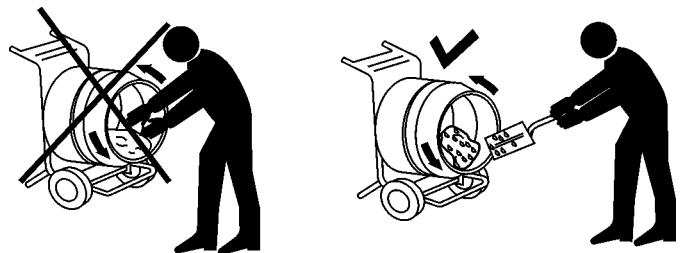

Figure 19. Mixing Drum (Placing cement Mix)
6. The drum should be rotating allowing the mixing process to begin. Use a shovel (Figure 19) to place the cement mix inside the drum, add water as required. Be careful to only place the *tip* of the shovel inside the drum. Placing the shovel all the way inside the drum will cause the shovel to strike the blades. This condition will make the shovel rotate, and could cause injury to personnel.